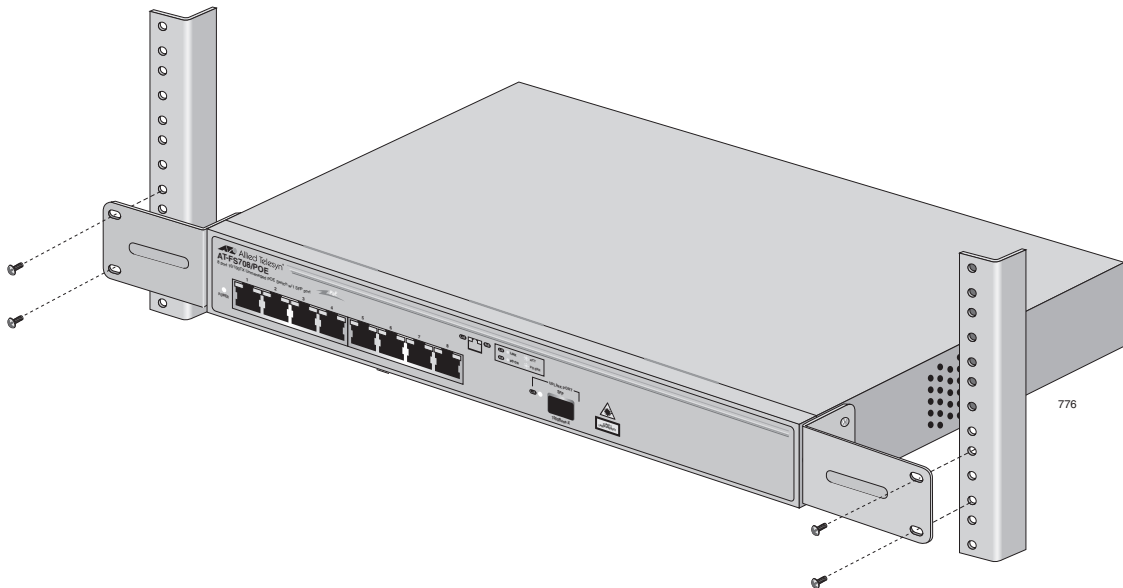

Figure 9. Mounting the Switch on the Rack
3. Mount the switch on a 19-inch rack using the screws (not provided), as shown in Figure 9.